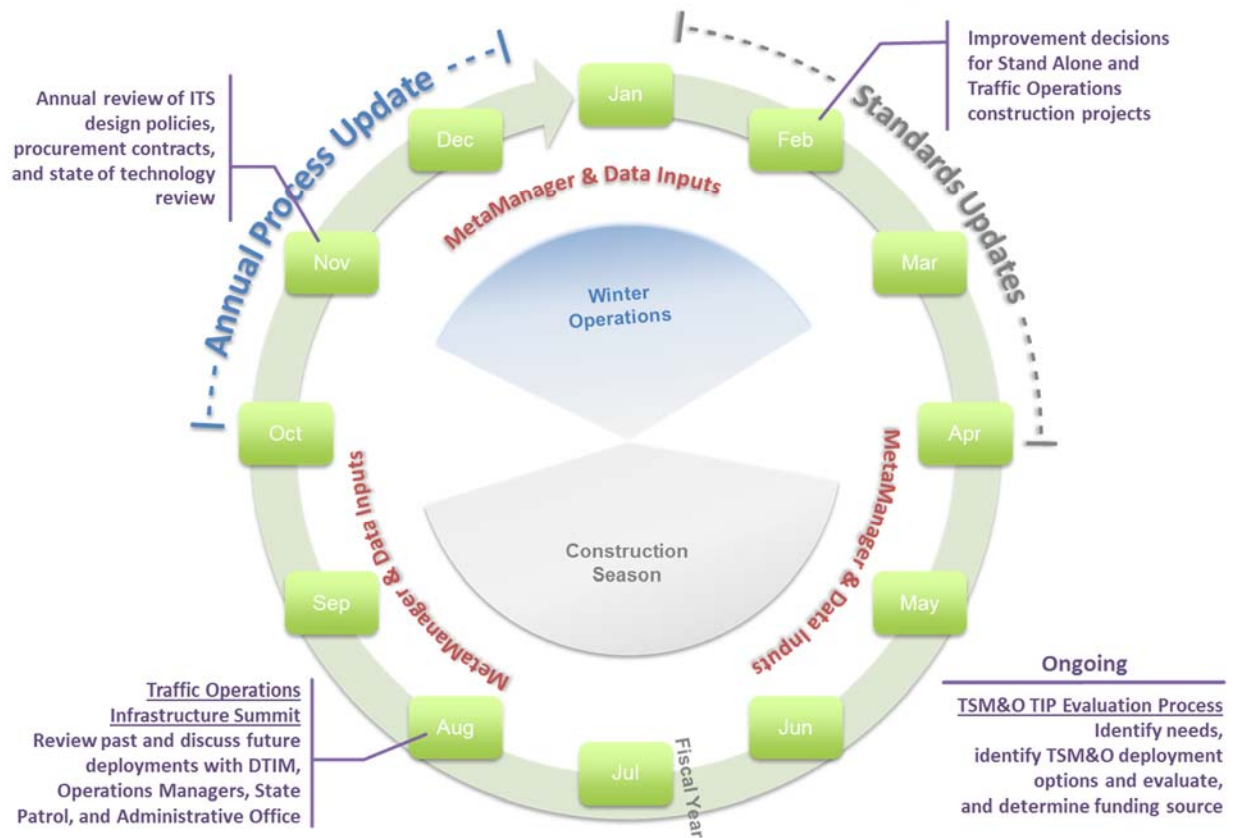
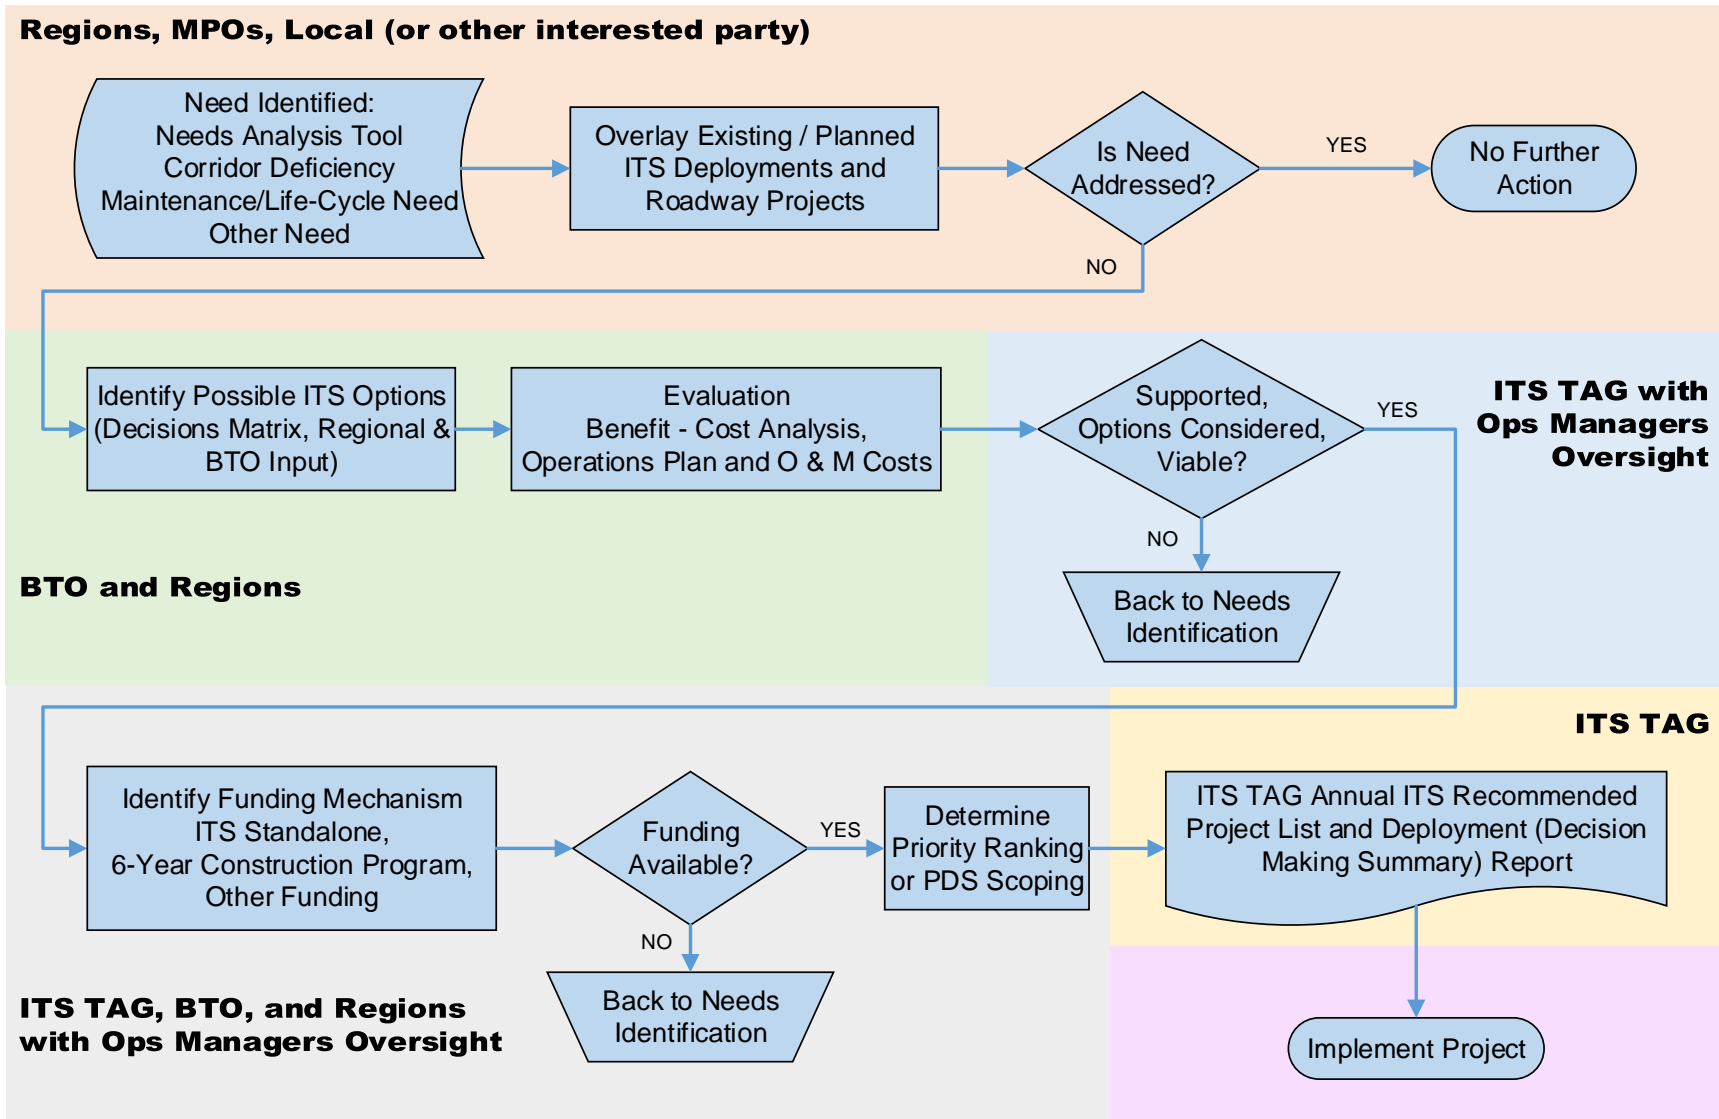

Figure 2: TSM&O Strategies Annual Planning Cycle
Figure 3: TSMO-TIP Flowchart (updated version based on stakeholder feedback)
The original flowchart presented at the meeting was modified using stakeholder input. The updated flowchart is included in Figure 3.
These issues were discussed and addressed at the Stakeholder Summit. The annual evaluation process, flowchart illustrated in Figure 3 and discussed above, provides a decision making guide and approval process for infrastructure deployment. The annual planning cycle, Figure 2,
- Annual schedule tie in with evaluation process (See Figure 2)